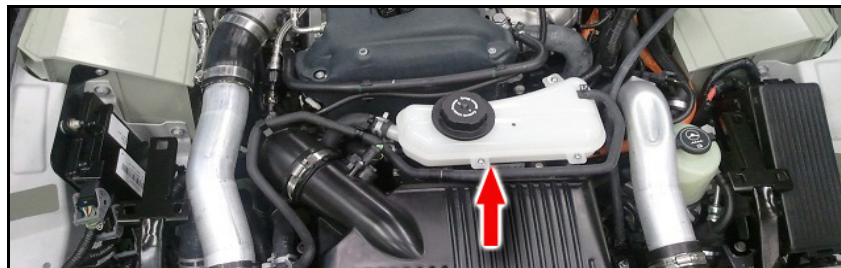

Figure 6A
6.1. Using a suitable vacuum filling kit such as a Snap-On RADKITPLUSA, pull a vacuum on the low-temp cooling circuit by attaching the kit to the low-temp circuit reservoir located in front of the engine (see red arrow in Figure 6A).